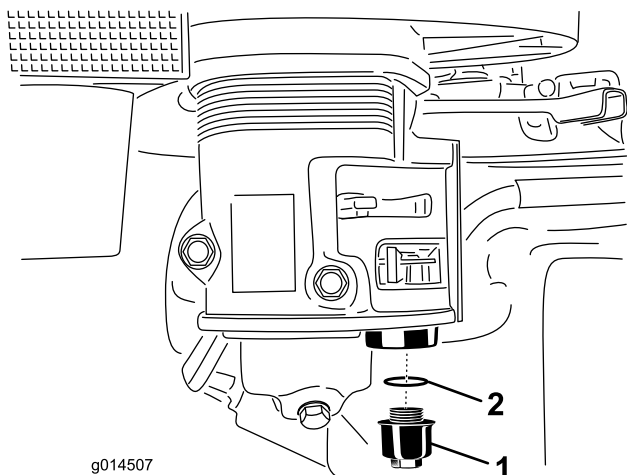

Figure 17
- Unscrew the sediment cup. Make sure not to misplace the O-ring (Figure 17).